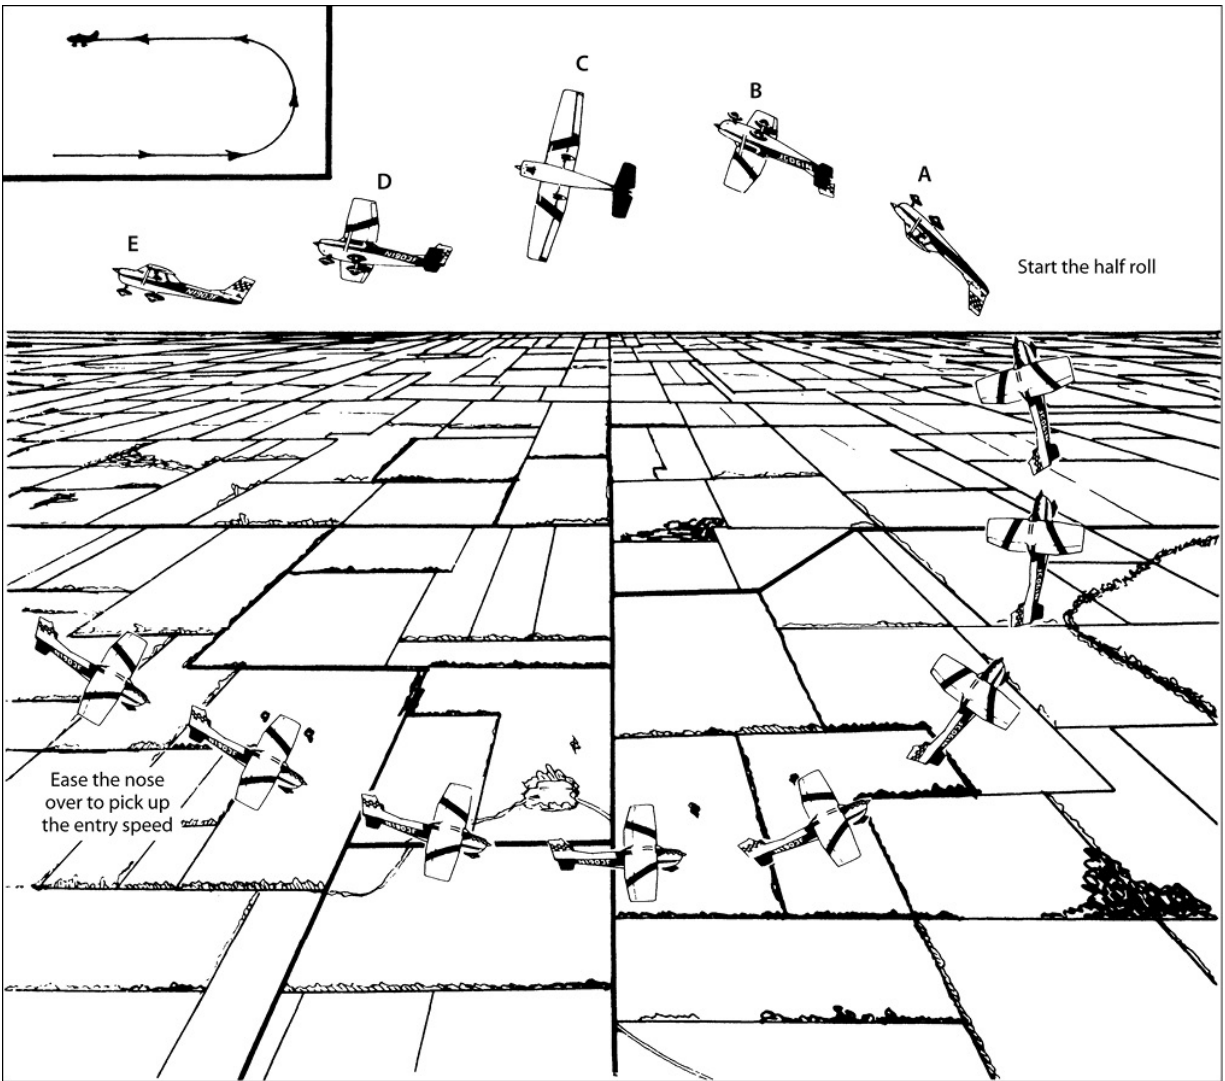

Figure 5-9. Immelmann. See Figure 5-10, A–E for the views from the cockpit. The insert shows the “classic” maneuver. (From *The Flight Instructor’s Manual*)
The Immelmann is a maneuver named for World War I German fighter pilot Max Immelmann. It consists of a half loop with a half roll at the top, so that the flight path is changed 180° with (if all goes well) a gain in altitude (Figure 5-9). It is an excellent maneuver for developing good planning and coordination.
1. Start a left aileron roll when the nose is approximately 30° above the horizon (inverted). Allow the nose to move smoothly down to the horizon as the half roll is done. Use slight forward pressure during the first part of the roll and at the 90° roll point be prepared to *increase* the forward pressure to keep the nose from being off to the right as the roll ends (as is necessary for the half roll in the Cuban eight). During the last 45° of roll, be prepared to apply more left rudder; as the roll is being completed, back pressure is used to keep the nose in the attitude required to maintain level flight. Figure 5-10 A–E shows the aileron roll as seen from the cockpit in the sequence of Figure 5-9 A–E.